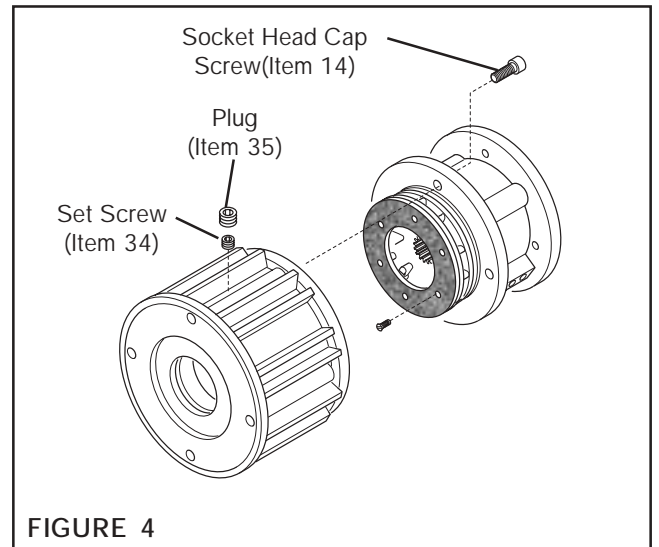

FIGURE 4
NOTE: If an Input Unit is installed on the FMCBES, it must be removed before servicing the FMCBES. Remove the Plug (Item 35) and loosen the Set Screw (Item 34) to release the FMCBES from the Input Unit shaft (See Figure 4).
1. Remove the four Socket Head Cap Screws (Item 14) and separate the two halves of the FMCBES (See Figure 4).
9. Apply a drop of Loctite[®] 242 to the threads of the Socket Head Cap Screws (Item 14) (See Figure 4).